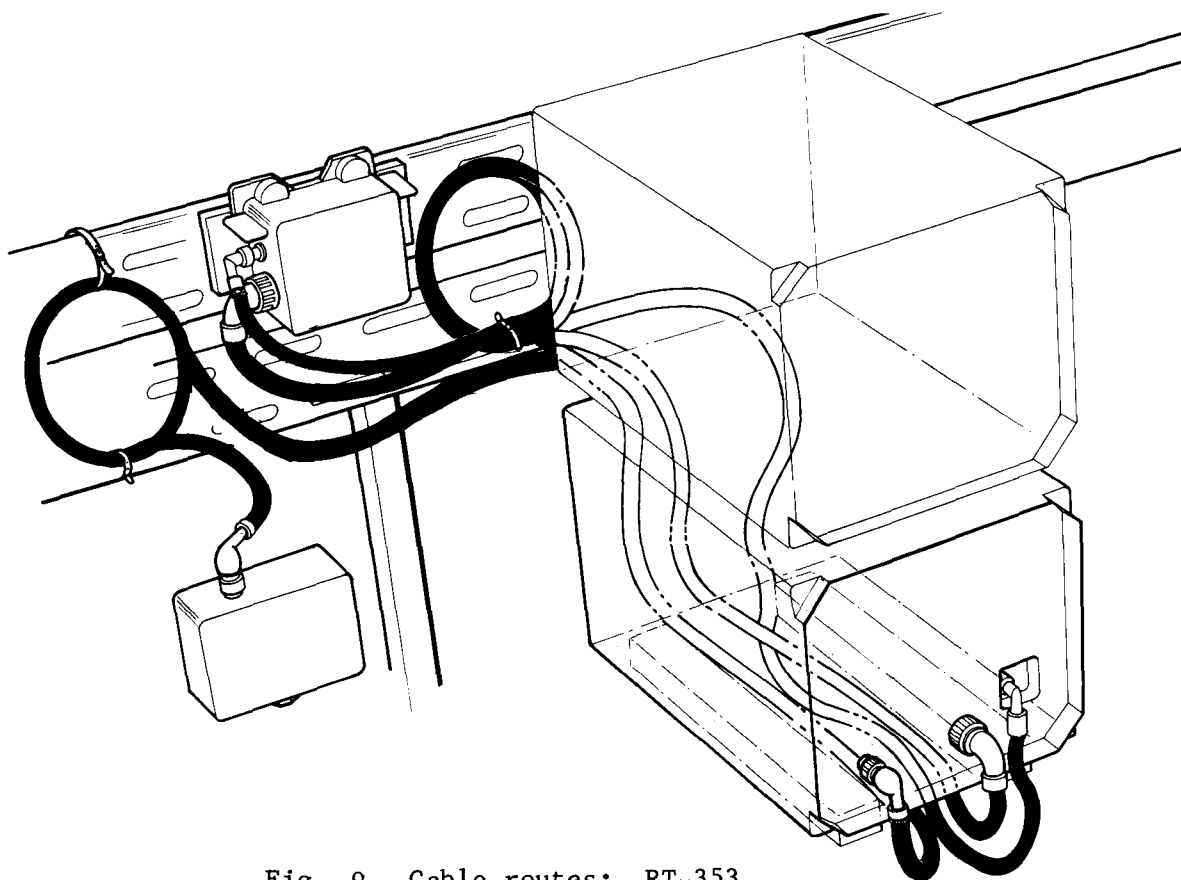

Fig. 9 Cable routes: RT-353
2. Connect the 2-pin plug marked 28V on the RT-353 front panel to a 2-pin socket on the distribution box using cable assembly, power electrical (5995-99-637-9887) from the UK/VRC-353 installation kit. Pass the cable under the RT-353 and clip it to the underneath of the equipment rack. Coil up the surplus cable length and clip it to the equipment rack above the distribution box. See fig. 9.
3. Connect the 12 pin plug/socket marked ARFAT on the RT-353 front panel to the 12 pin plug/socket marked RT-353 on the ARFAT using cable assembly, lead electrical (5995-99-637-0916) from the UK/VRC-353 installation kit. This cable assembly should already be positioned under the RT-353. Coil up the surplus length and clip it to the equipment rack to the left of the ARFAT as in fig. 9.